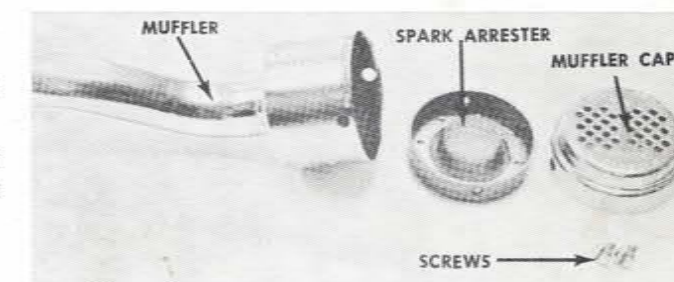

Figure 20
3. Figure 20 shows muffler and spark arrester disassembled for easy cleaning. **NOTE:** Removal of muffler is **NOT** necessary.